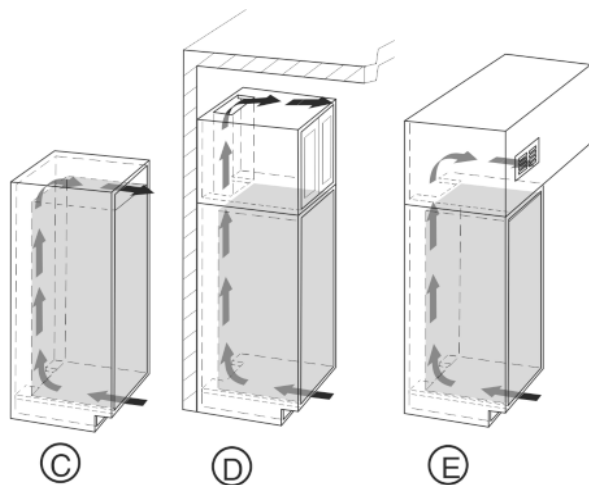

Fig. 7
- The top ventilation gap can be set up either directly above the appliance with an optional ventilation grid *Fig. 7 (C)* near the ceiling, above the cabinet *Fig. 7 (D)* or as an air vent in a false ceiling *Fig. 7 (E)*.